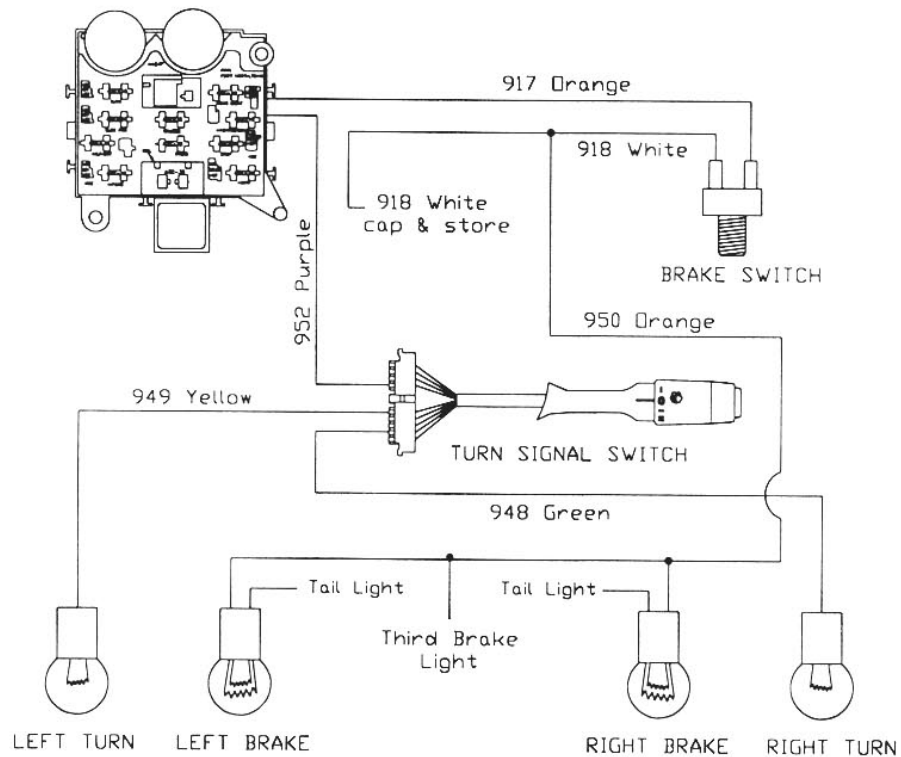

Figure 10-7 Integrated Brake Lights & Separate Turn/Brake Lights
- 10.9.2 These 4 wires will be connected according to one of the diagrams shown in **Figure 10-7**. Which diagram you will use depends on whether or not you have one bulb on each side of the vehicle that is for the brake/tail and Turn Signal Lights (this is referred to as integrated lights) or you have more than one bulb on each side and the Brake and Turn Signal Lights are hooked to different bulbs (referred to as separate Brake/Turn Lights).